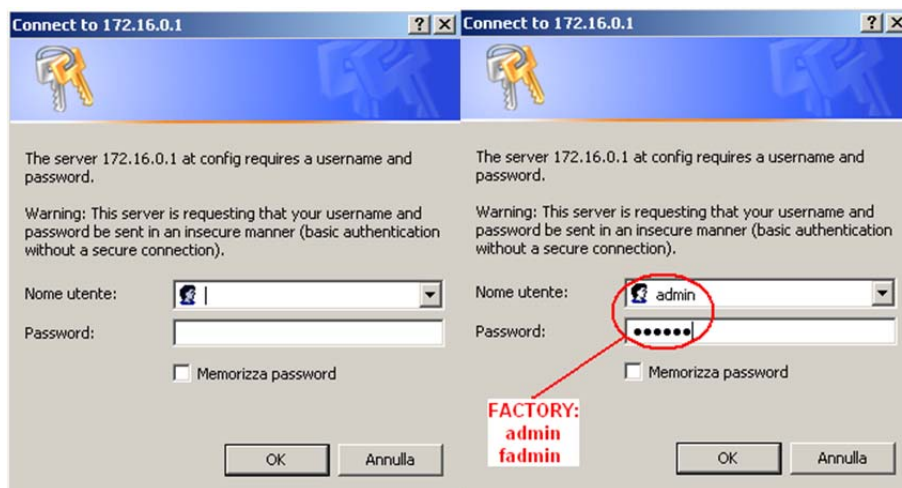

Figure 9.a - Authentication dialogue box for accessing the Administrator area
3. If the page appears as shown in Figure 3.g, click the "Go to Administrator area" link. An authentication dialogue box similar to the one shown in Figure 9.a will be opened. Continue as described in paragraph 9.2.1.
In the more general situation of connection via the network, there may be more than one *pCOWeb* connected; consequently, the IP address of the *pCOWeb* in question needs to be known; if necessary, contact the network administrator. If the connection fails, see paragraph 3.2 on page 15. If there are no problems, an authentication dialogue box similar to the one shown in Figure 9.a will be opened. Continue as described in paragraph 9.2.1.
Following the previous points, an authentication dialogue box is displayed on the PC screen (Figure 9.a); complete the fields with the access information, then select OK. The default settings are: Username: admin Password: fadmin